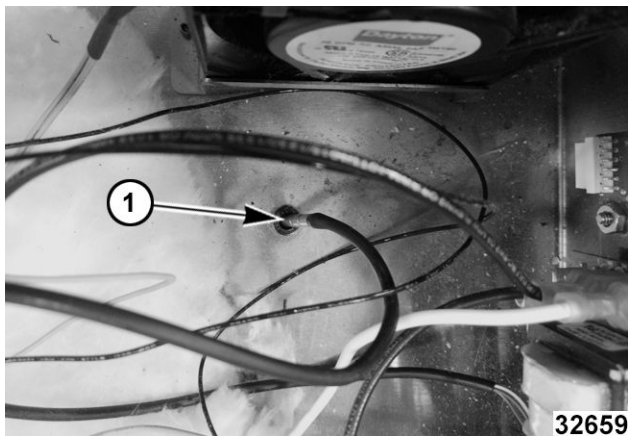

Fig. 19
5. Pull probe (1, Fig. 19) up through grommet in top of cabinet.